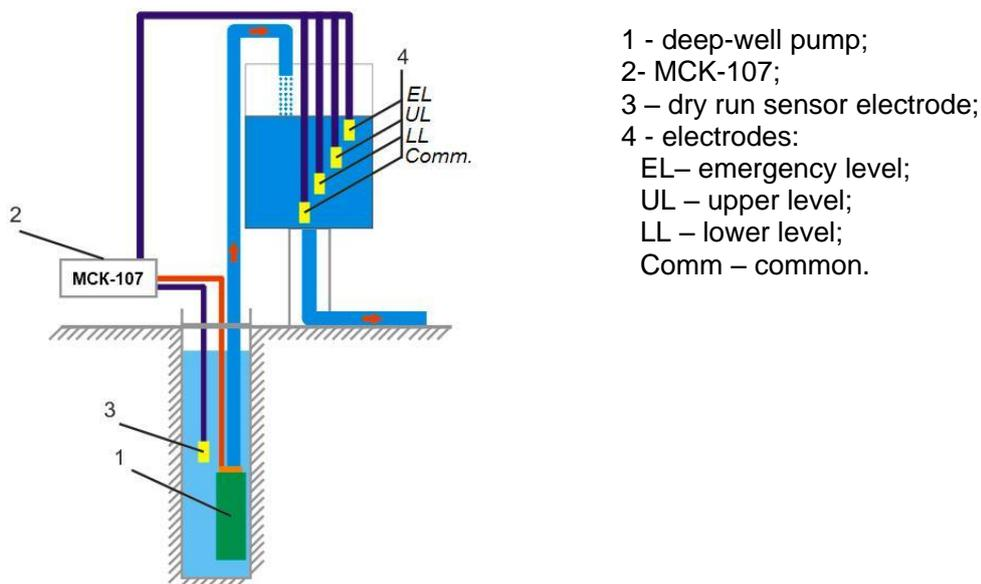

Figure 2.5 – Application of MCK-107 in the filling mode with conduction-measuring sensors (level sensors)
- filling mode with level sensors (Figure 2.5).